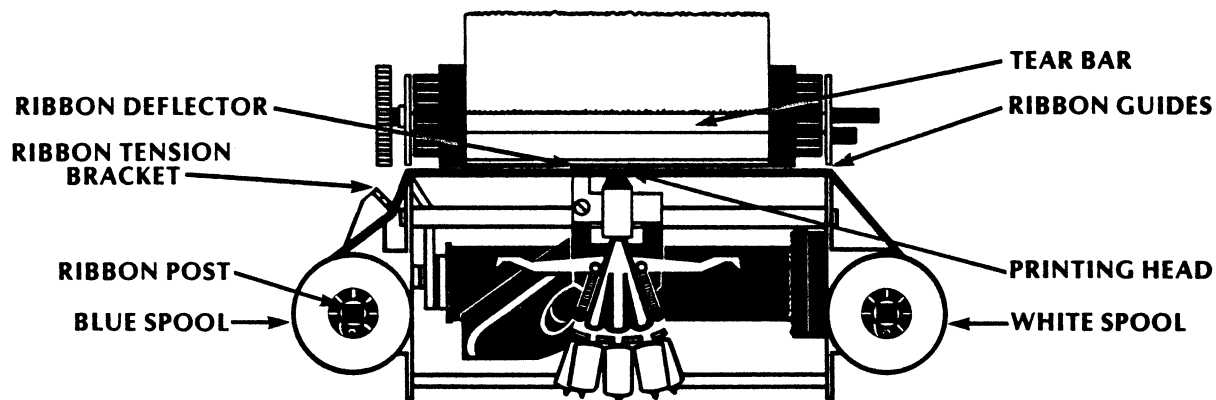

Figure 5-8. Printer Ribbon Installation Guide
3. Position the ribbon along the path illustrated in Figure 5-8. The ribbon should be positioned in front of the ribbon tension bracket and around the two ribbon guides.